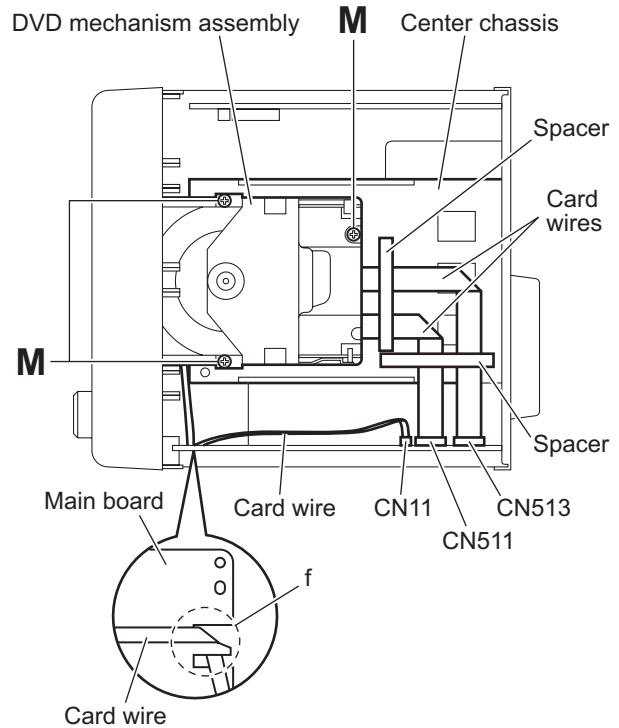

Fig.12
### 3.1.6 Removing the DVD mechanism assembly (See Figs.12 and 13)
- From the top side of the main body, remove the three screws **M** attaching the DVD mechanism assembly on the center chassis. (See Fig.12.)
- From the forward side of the main board, disconnect the card wires from the connectors (CN11, CN511, CN513). (See Fig.12.)
When reassembly, pass the card wire through the section **f** of the main board before connecting the card wire to the connector CN11. (See Fig.12.)
- Remove the spacers fixing the card wires. (See Fig.12.)
After connecting the card wires, fix them with the spacers as before. (See Fig.12.)